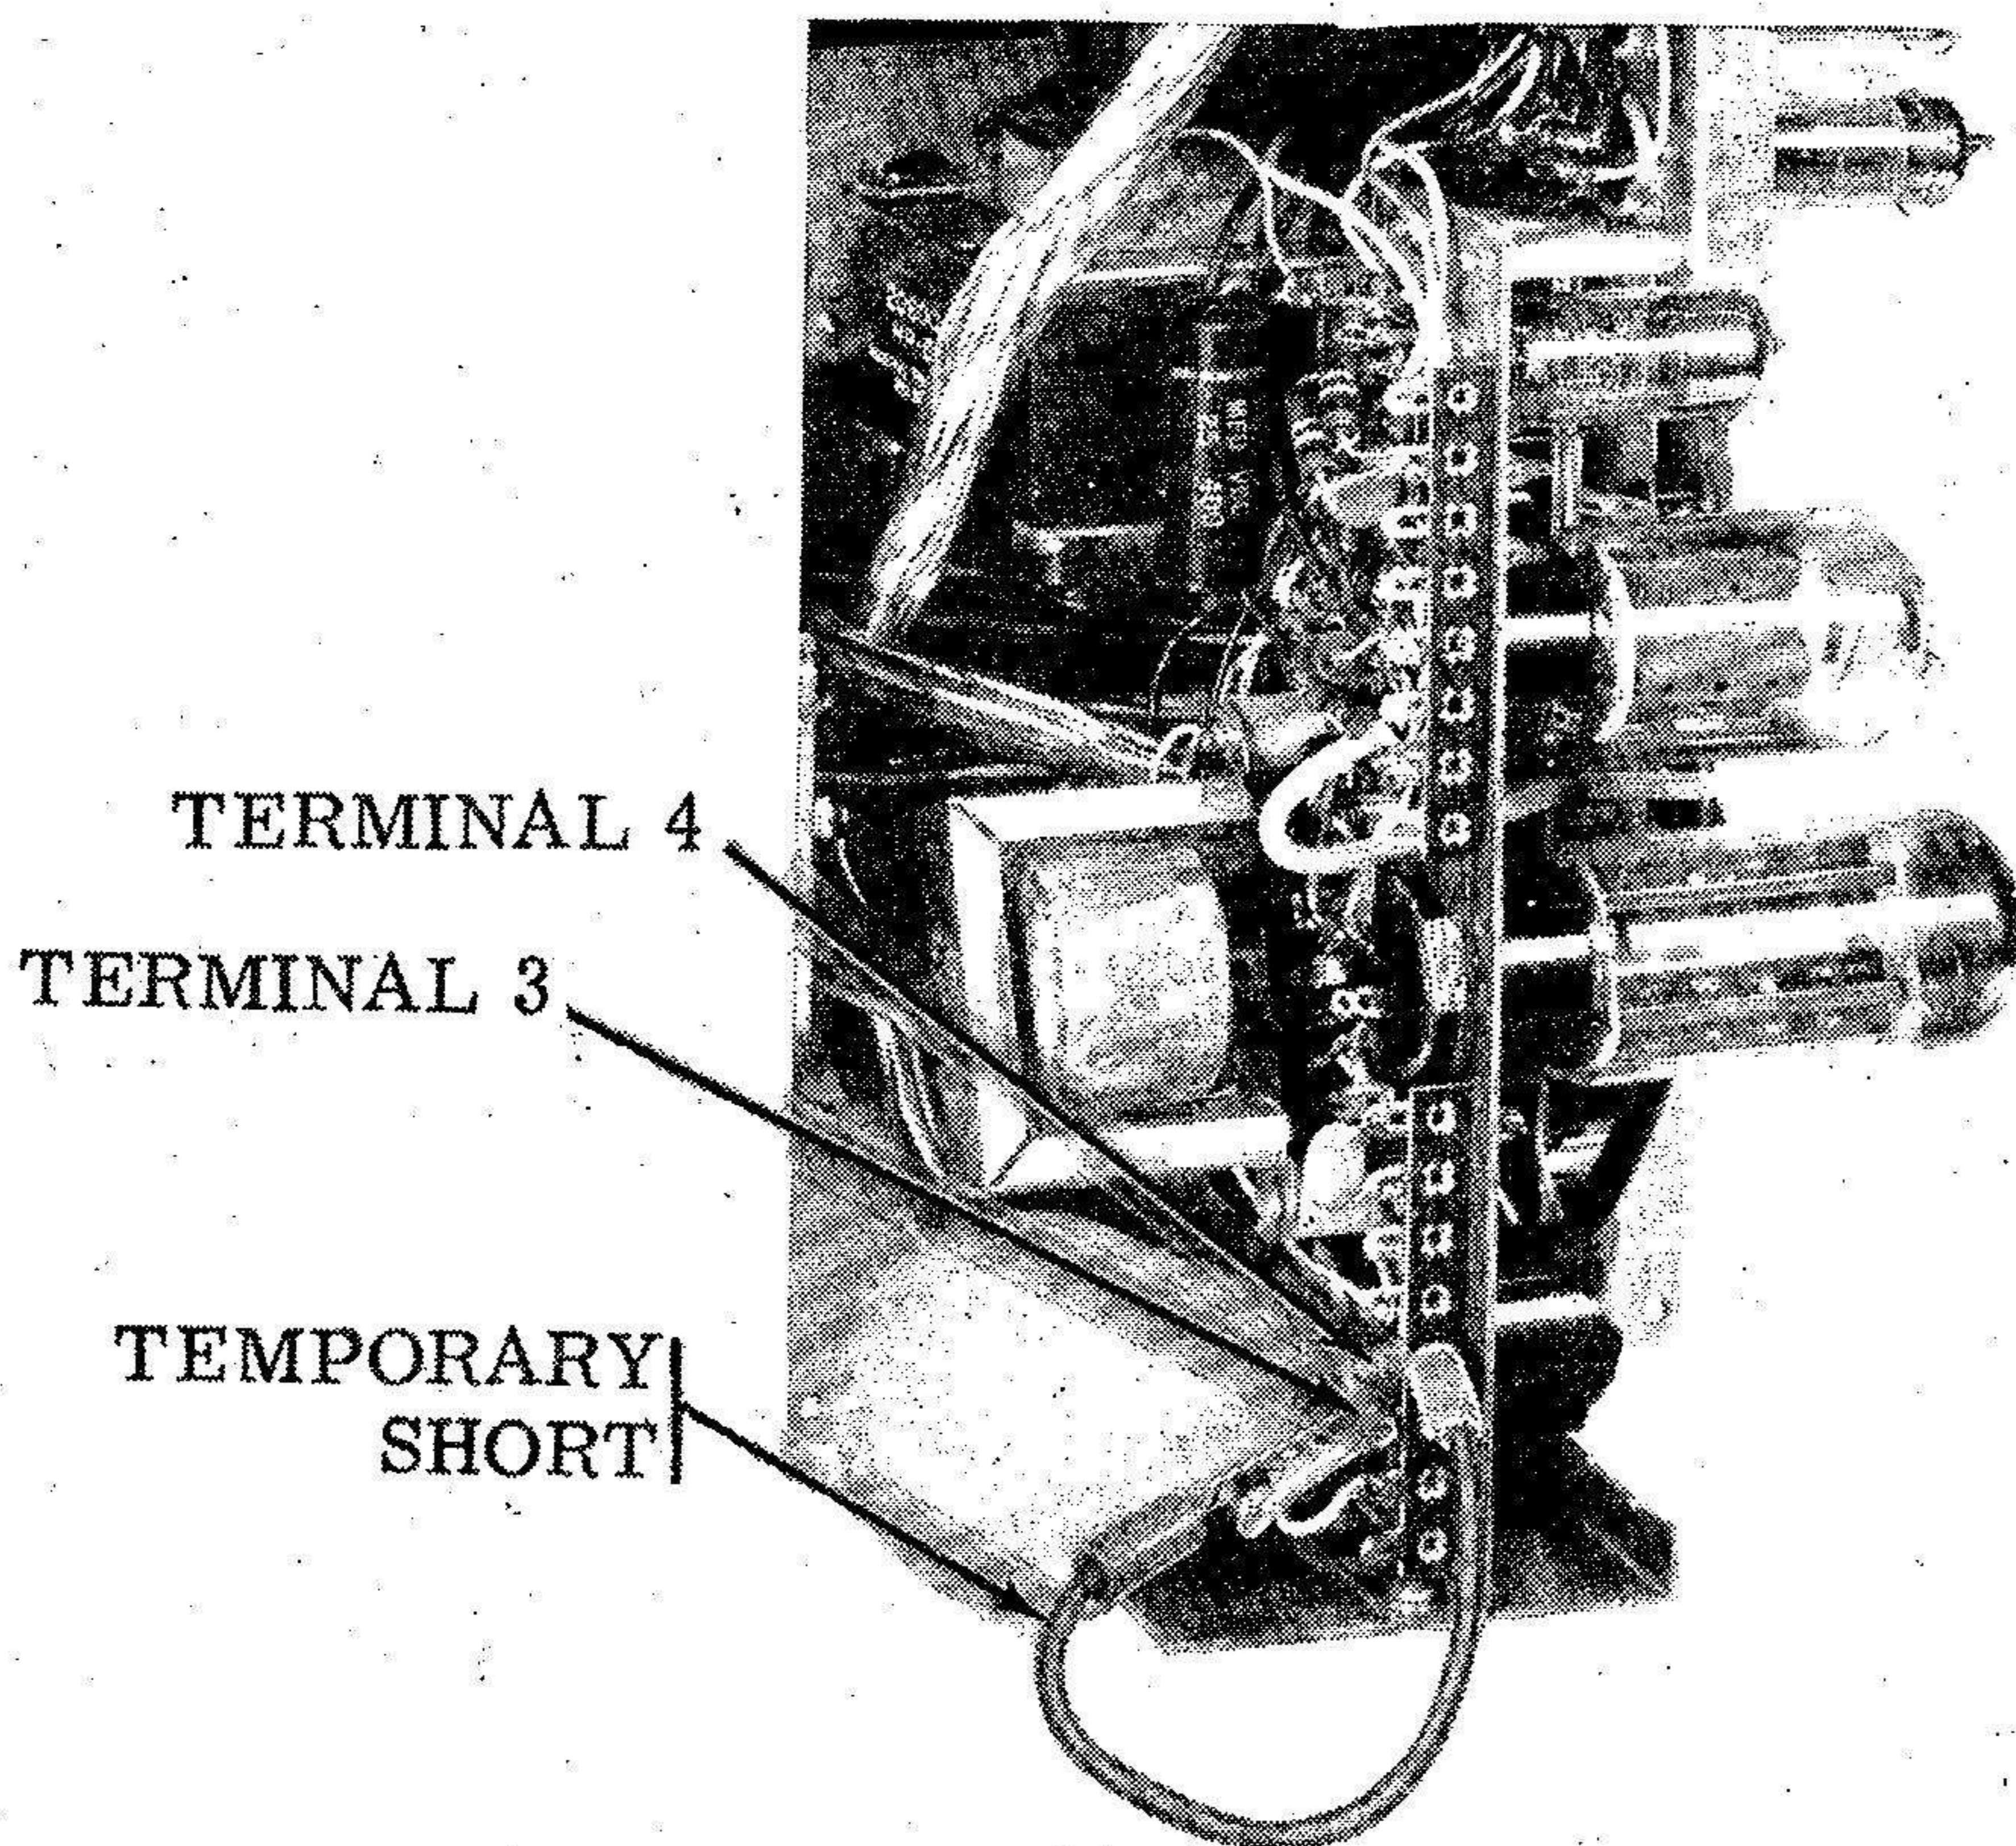

Figure 11. Section of Chassis of Model 123R
- Connect a temporary short circuit between the two terminals as indicated in figure 11.